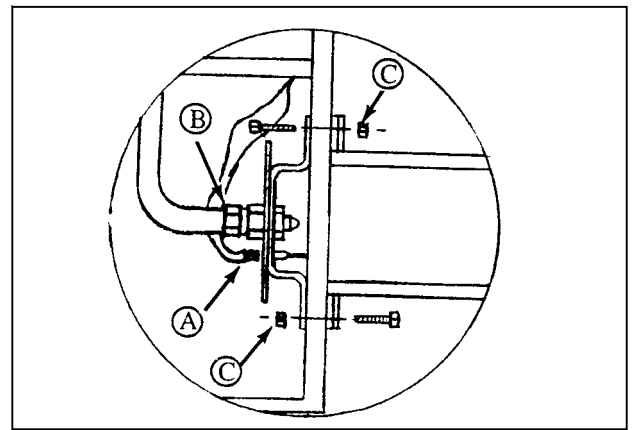

Figure 4.2
3. Unplug glo-bar lead (A) at the burner baffle plate. Break unions (B) and move gas manifold from orifice bracket. Gas orifice removal is not necessary. (See Figure 4.2).
4. Remove bolts (C) and lock-washers that fasten the orifice bracket to the control box. Pull burner housing off fixed bolts, rotate counterclockwise  $\frac{1}{4}$  turn and remove (See Figure 4.2).